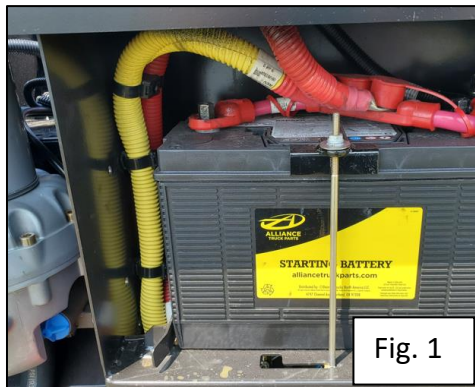

Fig. 1
- A. Using a ratchet with 9/16" socket, disconnect and remove the cable from the top of the battery. (Figure 1)